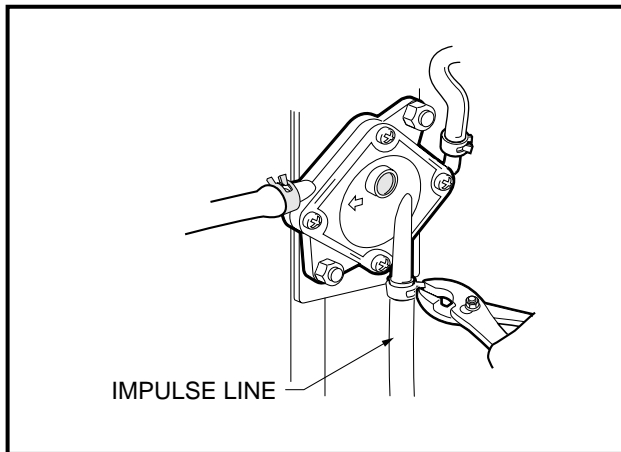

Figure 16-110 Impulse Line
30. Connect the impulse line to the fuel pump and secure it with the hose clamp (**Figure 16-110, Page 16-45**).